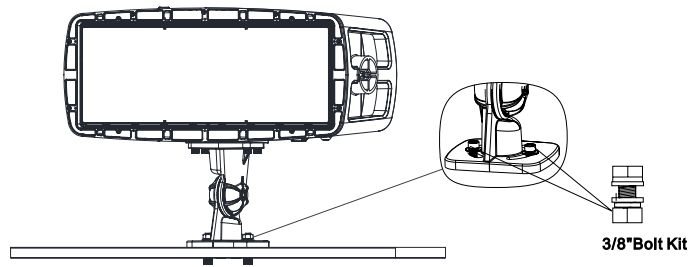

Figure 5
- M10 diameter bolt/nut, flat washers, and lock washer kit (Figure 5).